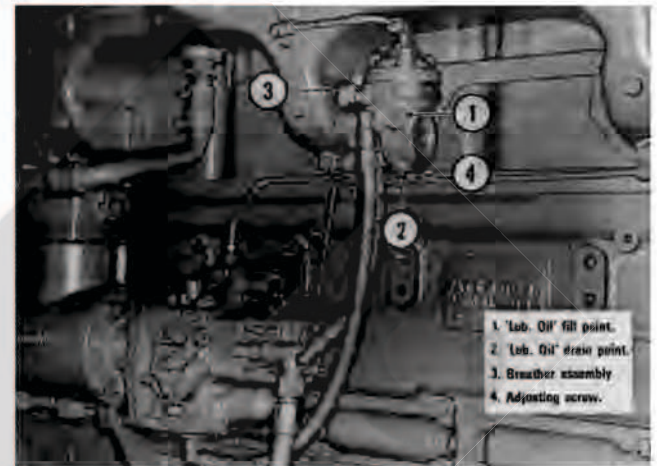

Fig. 2-36, (N10503). Aneroid
1. Remove fill plug (1, Fig. 2-36) from the hole marked "Lub oil".
Remove and replace the aneroid breather (3, Fig. 2-36).